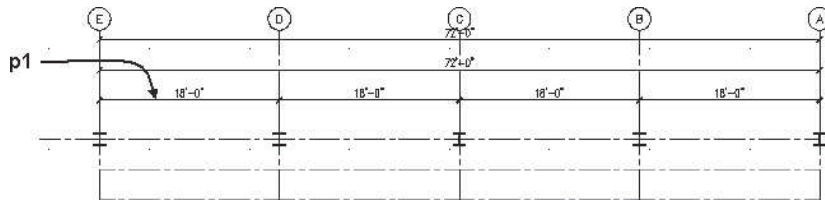

FIGURE 13.41 Location of horizontal dimension
6. Select the **Annotate** tab. Double-click the **Annotation Tools** button of the **Tools** panel to display the **Document** palette set. Choose the **Dimensions** tool palette. Select the **AEC Dimension – Exterior** tool from the **Dimensions** palette. Select the column grid and press **ENTER**. Select a point near **p1** as shown in Figure 13.41.